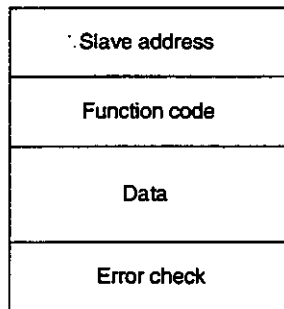

Figure 5.1 Query Message Configuration
- 3) Query messages are comprised of the slave address, function code, data, and error check components sent in exactly this order. *Figure 5.1* shows the configuration of a query message.